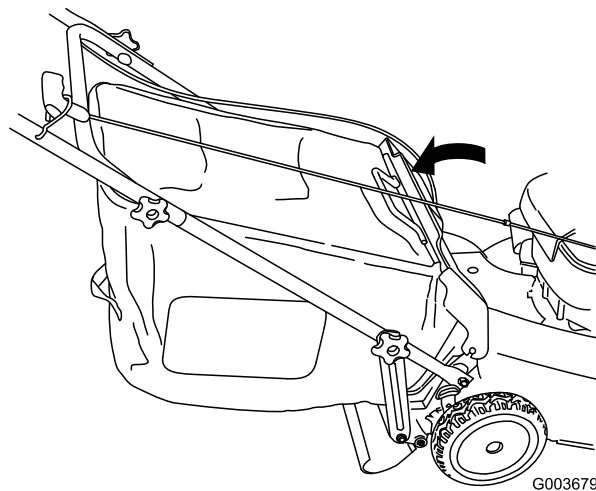

Figure 27
5. Lower the rear door (Figure 27).